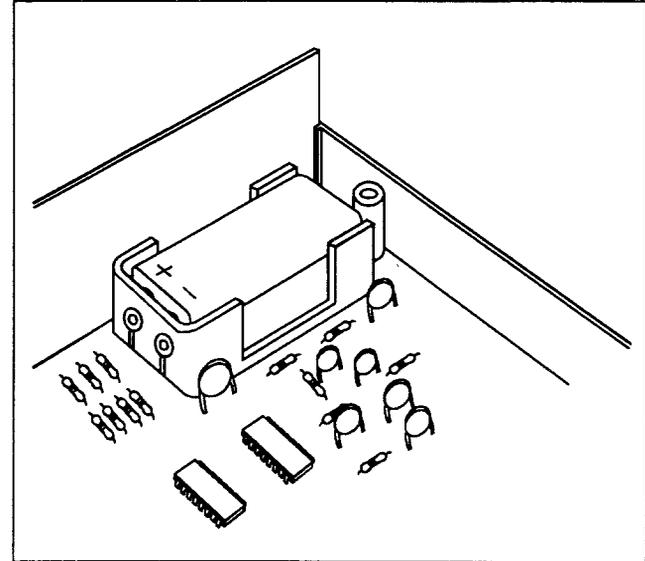

Figure 4. Location of Battery
5. Remove discharged battery from battery holder located at the right rear of the chassis as shown in Fig. 4. Install a new battery into the battery holder. Be sure to observe polarity and insure that battery contacts are fully connected.